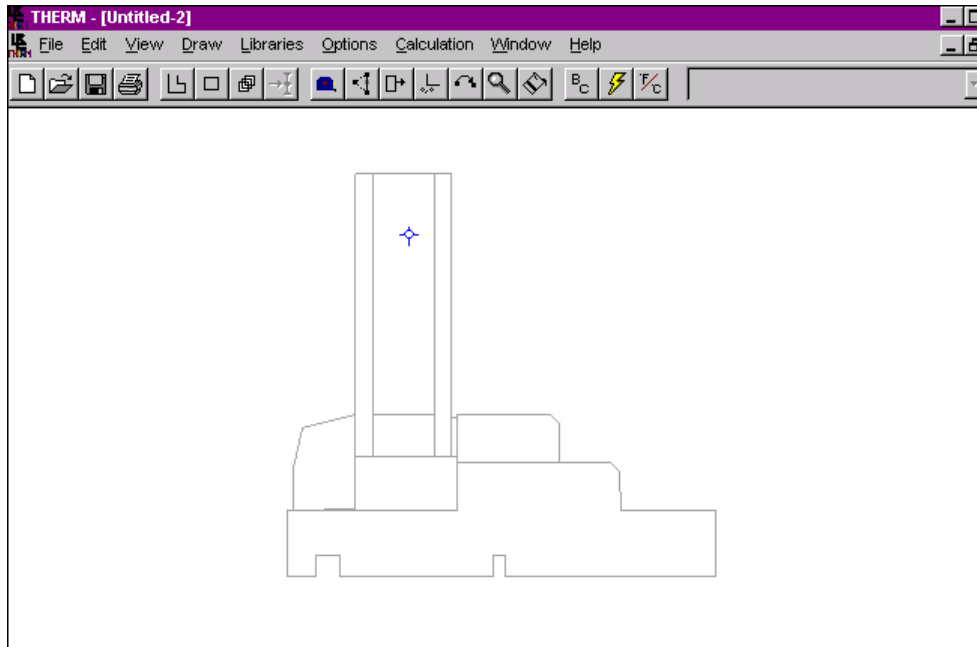

Figure 8-15. The DXF file has been imported as an underlay, which can now be traced to make the individual polygons.
- THERM attempts to fit the DXF cross section in the drawing area while still making the scale as big as possible. In Figure 8-15, you can see both the THERM origin (cross hairs corresponding to the origin of the DXF file) and the cross section.